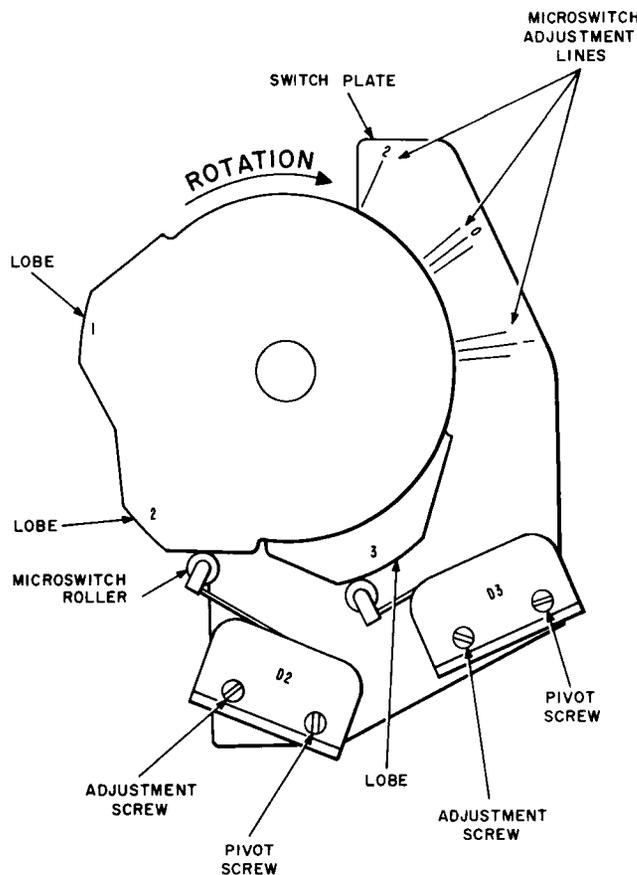

Fig. 9—Relationship of Cam Lobes to Microswitches—
- (a) **L5 and L6 Machines:** To check for proper positioning of D2 and D3 microswitches (Fig. 9), proceed as follows.
- (1) Slowly rotate the drum clockwise until lobe 1 closes switch D2. At this point place a pencil mark on the cam opposite line "0". Place the mark as near as possible to the edge of the cam.
- (2) Continue to rotate the drum clockwise until lobe 1 opens switch D2. The pencil mark should now fall either on line "1" or within the limits on either side of it.
- (3) At the point where lobe 1 opens switch L2, place a second pencil mark on the cam opposite line 2 and continue to rotate cam clockwise until lobe 2 closes switch D2. The second pencil mark should now fall on line 0 or within the limits on either side of it.
- (4) At the point where lobe 2 closes switch D2, place a third pencil mark on the cam opposite line 2 and continue to rotate cam clockwise until lobe 2 opens switch D2. The third pencil mark should now fall on line 0 or within the limits on either side of it.
(5) If in (2), (3), and (4) the pencil mark does not fall either on line 0 or 1 or within the limits on either side of them, loosen the mounting screws of switch D2, change its position, tighten these screws, and repeat the preceding steps until each of the requirements are satisfied.
(6) After switch D2 has been properly positioned, erase all pencil marks. Then turn the cam clockwise until lobe 2 opens switch D2. Lobe 3 should have previously closed switch D3. Again place a pencil mark on the cam opposite line 0. Continue to rotate cam clockwise until lobe 3 opens switch D3. The pencil mark should now fall on line 1 or within limits of the two small lines on either side of it. If this is not the case, loosen the mounting screws of switch D3, change its position, tighten these screws, and repeat (6) until switch D3 is properly positioned. Erase the pencil mark.